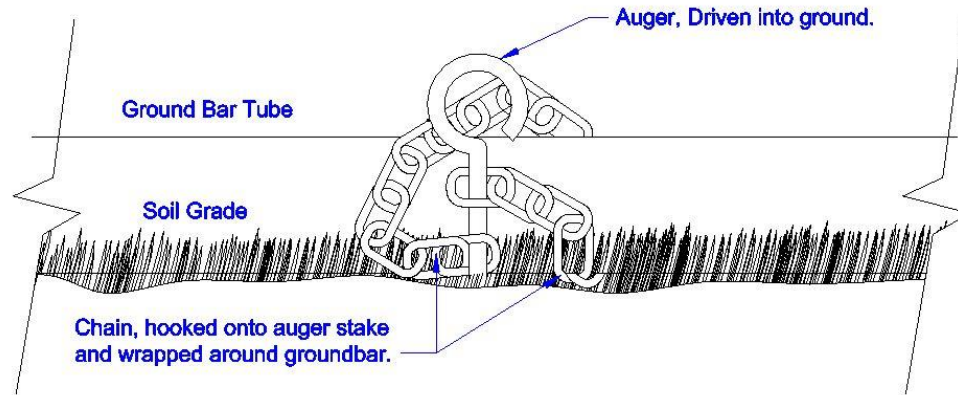

Figure 3. Auger and Chain installation over Groundbar tube.
11. Install 2 Auger Stakes and Chain to anchor Groundbar near each end, close to corner castings, by twisting the Augers into the ground. (See Figure 3)